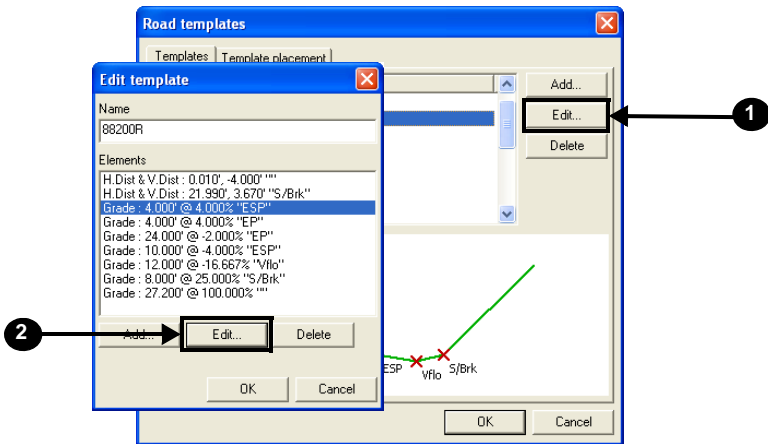

Figure 6-38. Select Template and Element to Edit
- Select the element to edit and press **Edit** (Figure 6-38).